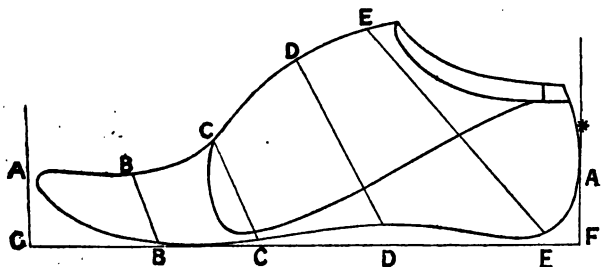

Fig. 8.
same, but the last will be perceptibly shorter. Beware of leaving too much on at the heel of the last, for nothing is more conducive to the discomfort of the wearer. Fig. 8 gives the points at which the last measurements are taken, which must conform in position to those taken from the foot, or a misfit will be sure to follow.
**Last Diagram and Positions of Measurement.**—The length is measured from A to A, the toes from B to B, the joints over C and C, the instep over D and D, and the heel over E on instep, and E at the bottom of heel, as shown in Fig. 8. The last when done with should be numbered and entered before being stored away, due care being observed with regard to its having its joints, instep, and other fittings firmly fixed, in order that neither may be lost.